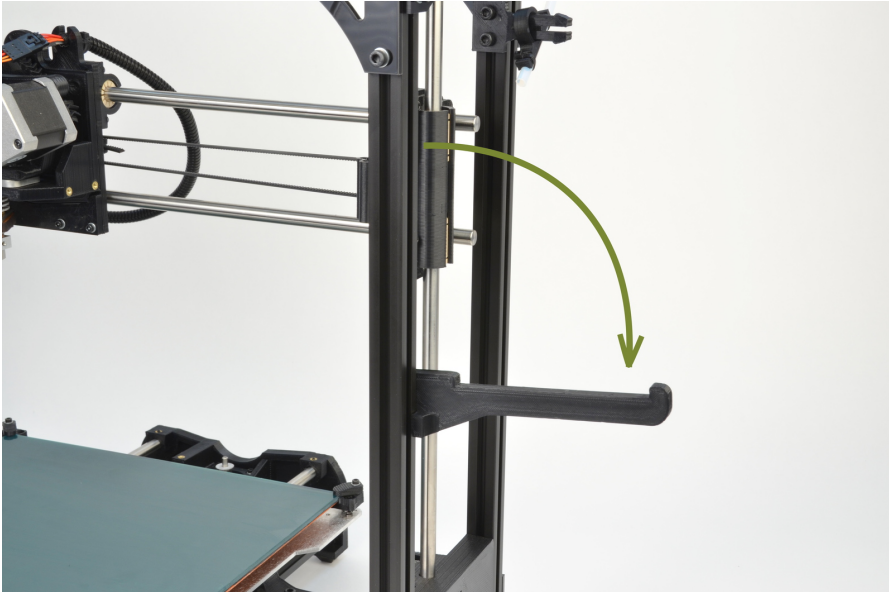

Figure 2.1: Filament reel arm
1. On the front right hand side of the TAZ 3.0 3D printer you will find the filament arm (fig. 2.1, page 34). Place the filament reel on the filament arm with the filament feeding counter clockwise.